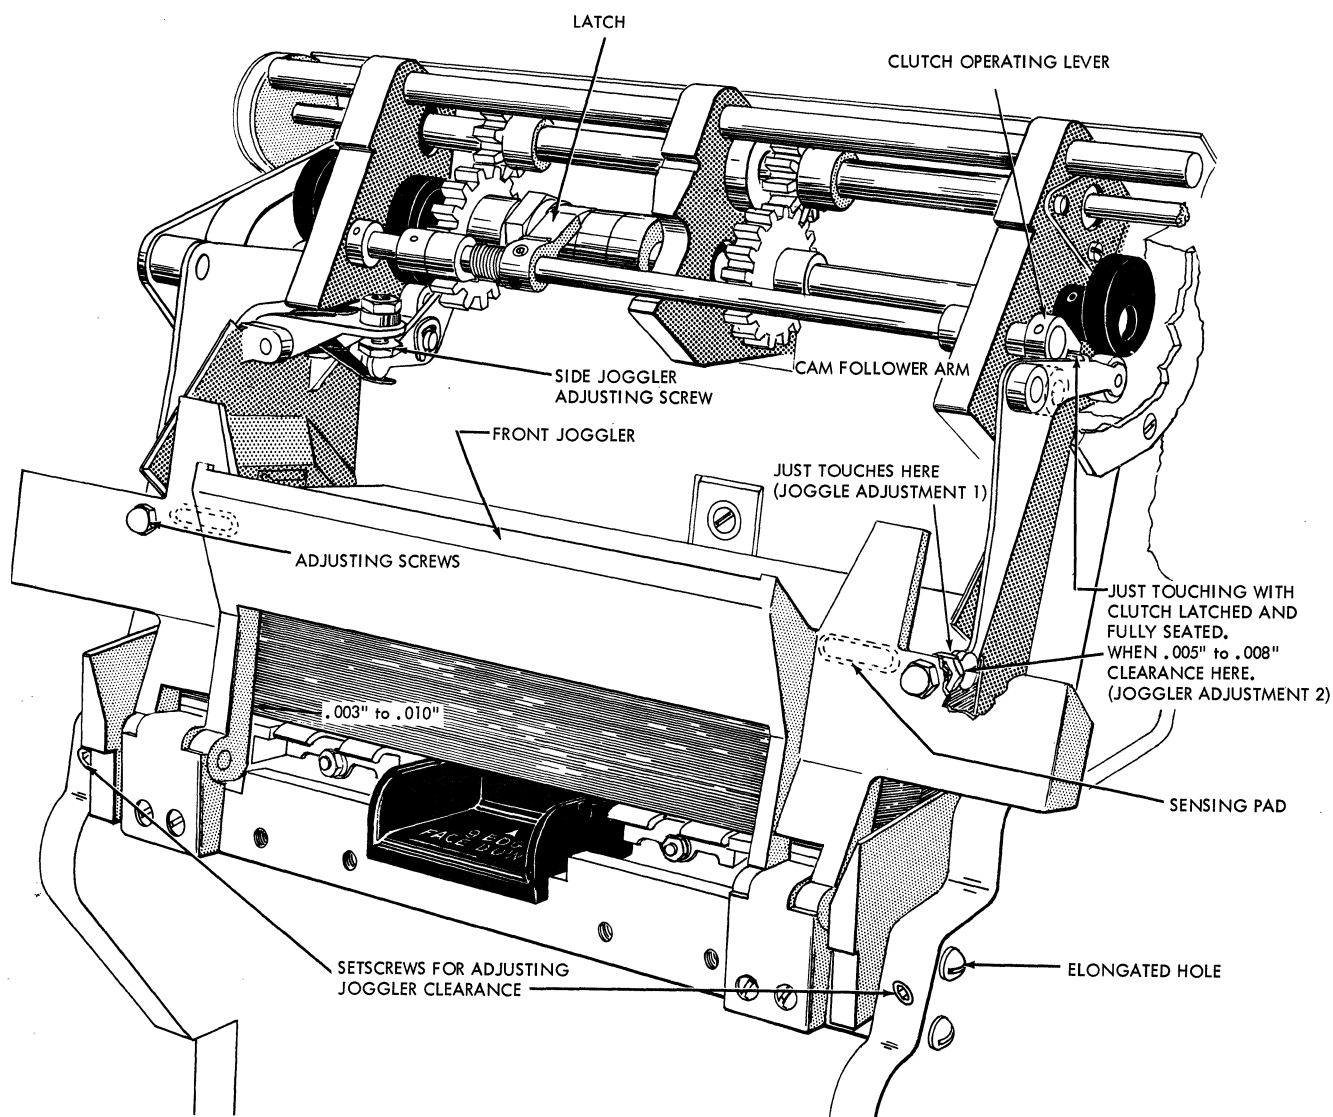

Figure 2-10. Lower Magazine Throat
1. Turn the file feed drive unit until the front jogger cam followers are on the low dwells of the cams. Fill the hopper to just below the sensing pads on the front jogger and close jogger. Set the adjusting screws on the jogger to just touch the operating arms (Figure 2-10). Under these conditions there should be $.003''$ to $.010''$ clearance between the cards and the lower end of the joggling surfaces (the lower end of the joggling surfaces is in line with the top of the card feed knife posts). This clearance is obtained by adjusting the hopper post mounting bar with the set screw (Figure 2-10). The hopper posts will now have to be adjusted (Refer to Hopper Adjustments).
cam follower against the cam, and continue to operate the unit. Stop when $.005''$ to $.008''$ clearance appears between the cam follower arm and the adjusting screws. Loosen the clutch operating lever on its pivot shaft and fully seat the clutch latch. With the cam follower against the cam, position the clutch operating lever so that it just touches the turned over ear on the cam follower arm (Figure 2-10). Tighten the set screws in the clutch operating lever, securing it to its shaft.